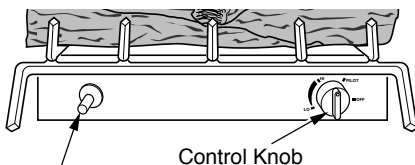

Figure 35 - Control Knob and Ignitor Button Location
5. Slightly depress and turn control knob counterclockwise  to the PILOT position. Press in control knob for five (5) seconds (see Figure 35).